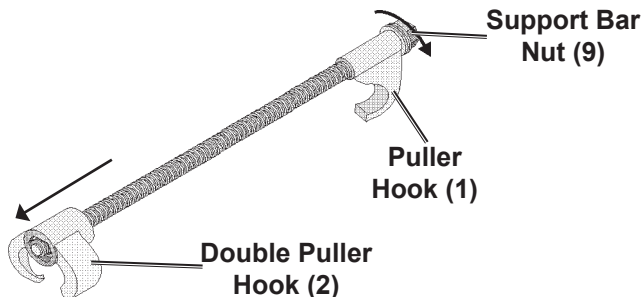

Figure 1 – Adjusting the Puller Hook
3. Adjust the Support Bar Nut (9) to move the Double Puller Hook (2) to the end of the Support Bar (3), as shown in Figure 1.